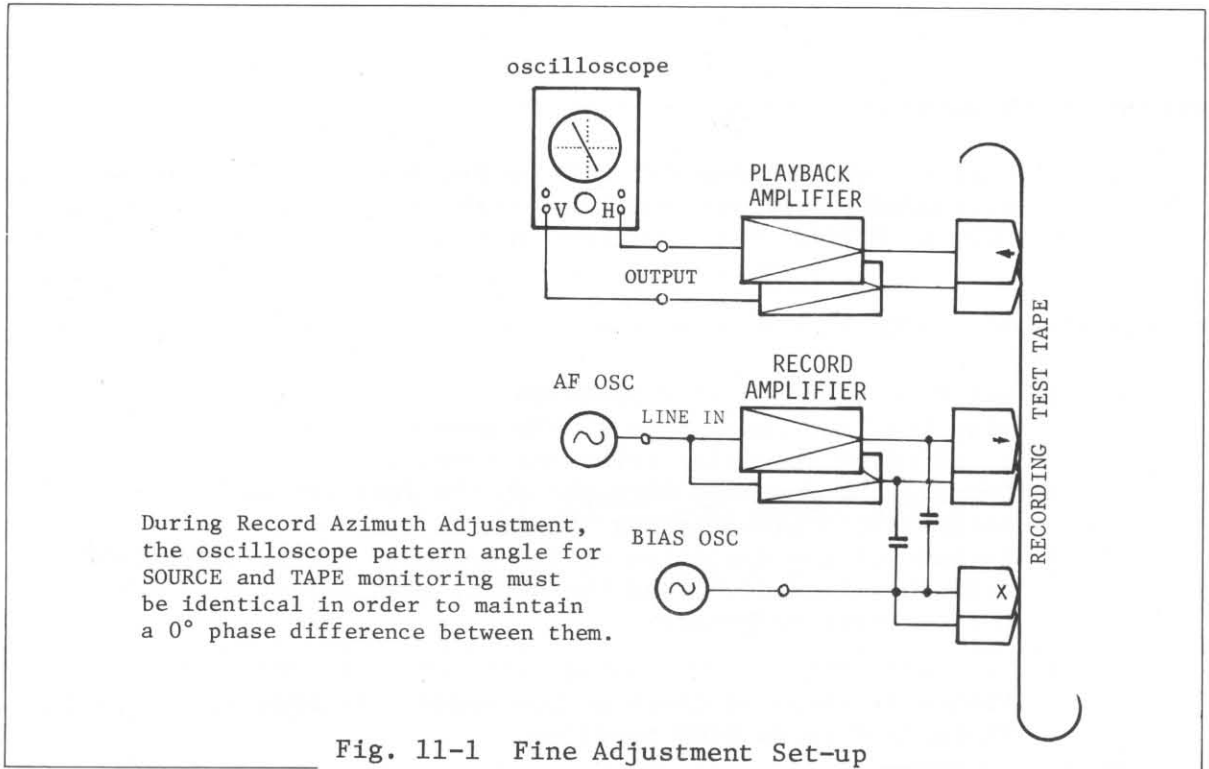

Fig. 11-1 Fine Adjustment Set-up
5. Connect the test equipment as shown in Fig. 11-1.
7. Connect the test equipment as shown in Fig. 11-1.
Refer to Fig. 11-1 Fine Adjustment Set-up (playback)